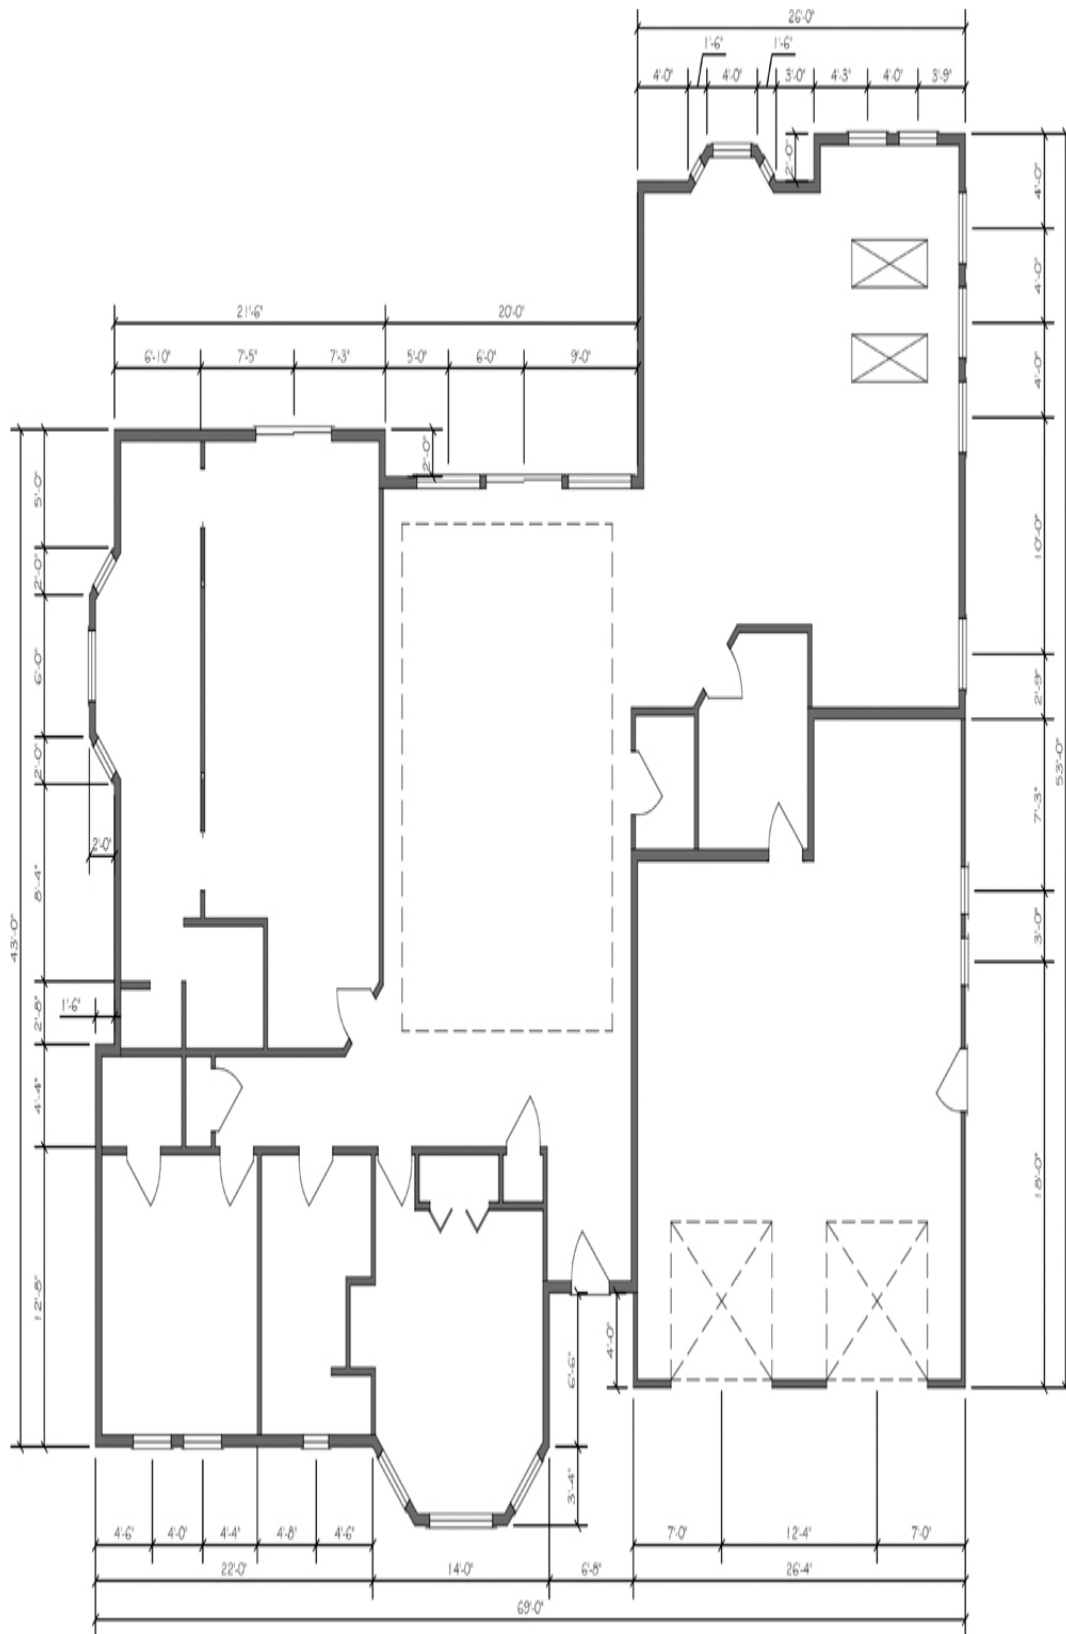

Figure 13-112
4. Add the dimensions shown in Figure 13-112.